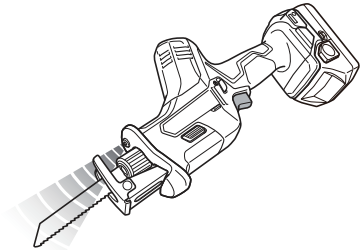

Fig. 28
7. LED light warning signals (Fig. 28)